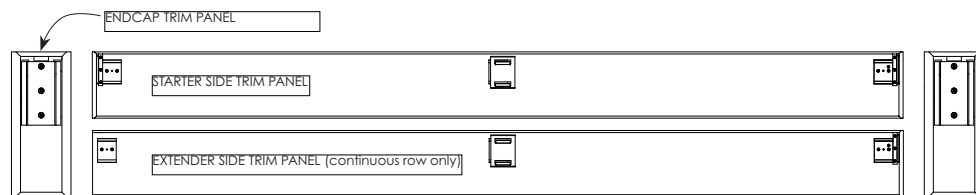

Fig. 4
7. Unpack acoustic trim panels (panels come shipped with brackets mounted) and identify side trim panels (marked for left and right side mounting) and endcap trim panels (See figure 4.)
10. Unpack acoustic trim (trim panels come shipped with brackets mounted) and identify starter side trim panels (marked for left and right side mounting), side extension trim panels and endcap trim panels (See page 3 figure 4.)